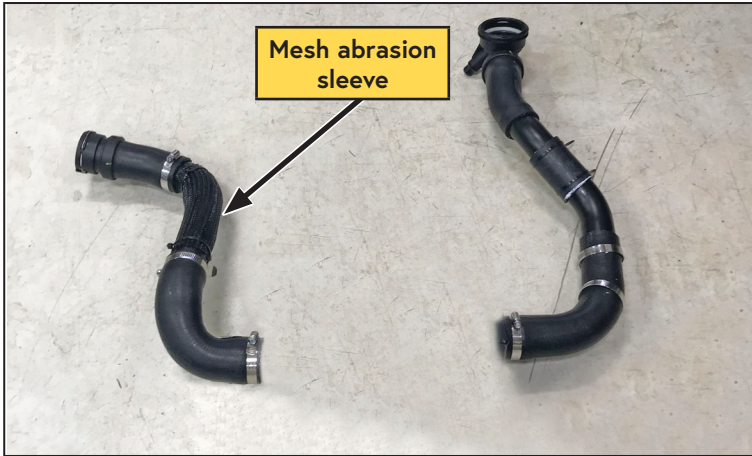

Figure 4 — Radiator side anti-abrasion sleeve
- ☐ Remove the anti-abrasion sleeve from the center section of the lower radiator hose and slide it over the radiator side coolant tube; securing it in place with cable ties (Figure 4).